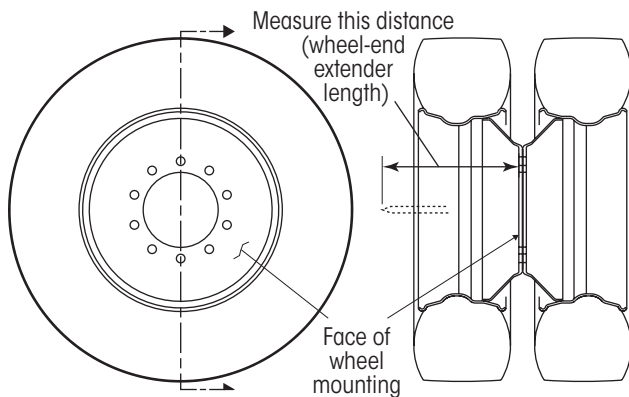

Figure 20: Measuring wheel-end extender length
- A. **Measure** the length of one wheel-end extender. **Measure** from the face of the wheel mounting to the tip of the wheel-end extender (Figure 20).